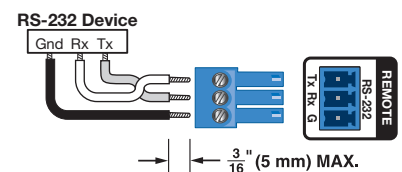

Figure 11. Remote RS-232 Connector Wiring
- O Remote RS-232 port** — Connect a serial RS-232 device into the matrix switcher via this 3.5 mm, 3-pole captive screw port for remote control of the switcher (see figure 11 to wire the connector).